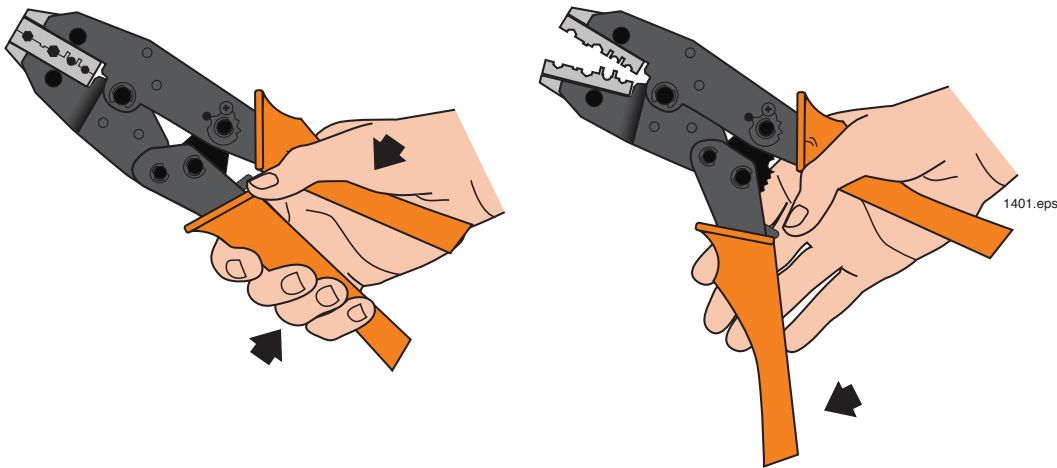

Figure 16. Proper grip of the crimping tool in its open position.
12. You will use the 0.128 inch hex hole in the jaws of the crimping tool to crimp the ferrule onto the fiber cable. It is the smallest of the holes in the jaws that have six sides. If the crimping tool jaws are not fully open, slowly squeeze the handles until the jaws fully close. Continue squeezing until the latch mechanism releases, allowing the jaws to open completely as shown in Figure 16.